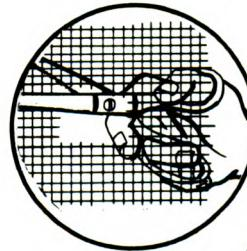

Fig. 1
1. Trim the hole in the screen to make smooth edges. (Fig. 1.)